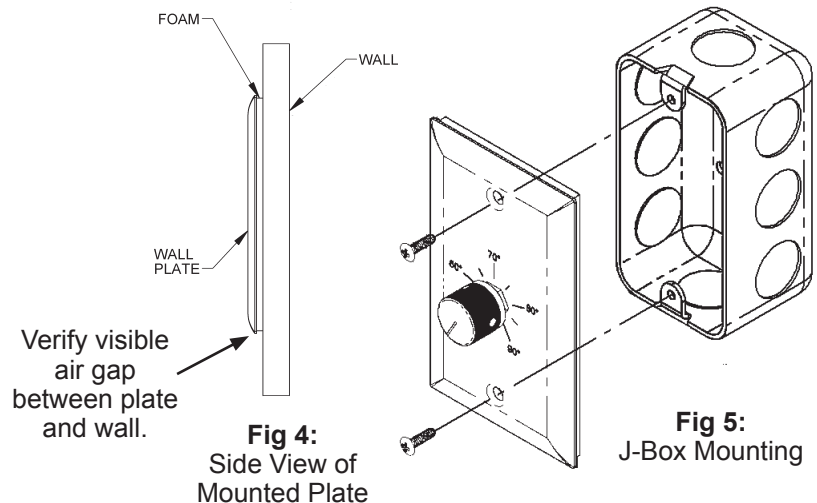

Fig 4: Side View of Mounted Plate
4. Tighten screws until the foam gasket on the back plate is compressed about 50%. Ensure the plate doesn't touch the wall (Fig 4).